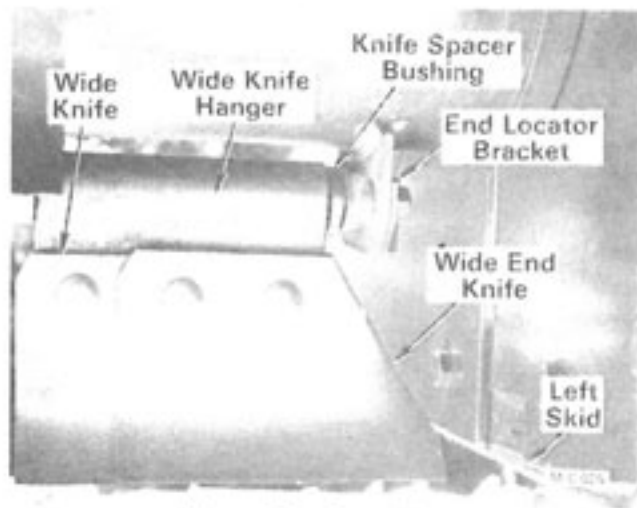

Figure 23 - Front View
- B. Turn the rotor and line up the rotor hanger bar in the center of the slot in the left side of the body. Block the rotor in this position. Remove the left end locator bracket, see Figure 23.
- C. Turn the rotor and line up the hanger bar in the center of the slot in the left side of the body, see Figure 23. Block the rotor in this position.
- B. The end knives must be opposite each other at each end of the rotor. The wide end of the knife faces the outside, see Figure 23.
- C. A knife spacer bushing goes between each end locator bracket and wide knife hanger, see Figure 23.